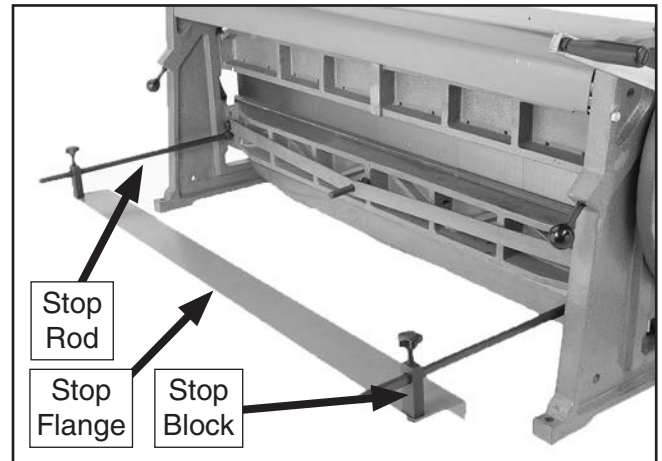

Figure 10. Stop assembly installation.
5. Fasten both stop blocks to the stop flange with the two M12-1.75 x 20 hex bolts, both flat washers, and install the stop blocks onto the stop rods as shown in **Figure 10**.